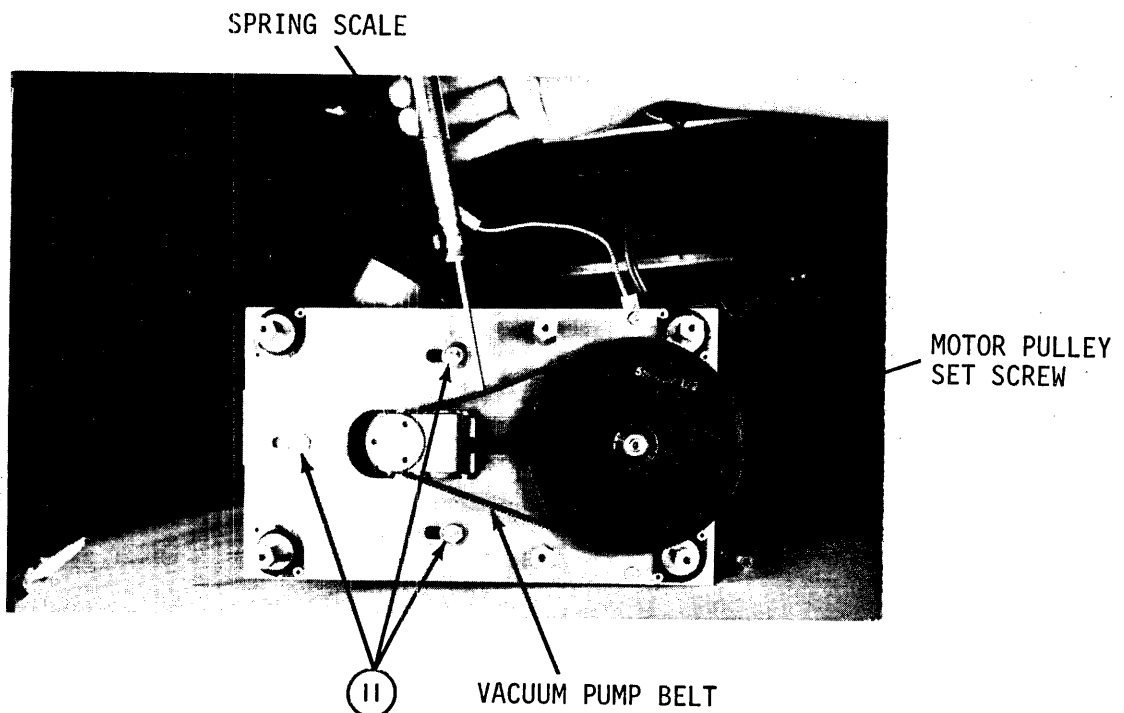

Figure 6-18. Adjustment of Vacuum Blower Motor Belt Tension
- k. Using a 7/16" open-end wrench, loosen the three hex bolts holding the pump assembly in place, figure 6-18.
- m. Check the pulleys to make sure they are in the same plane. Also check the motor pulley set screw to make sure it is secure, figure 6-18.